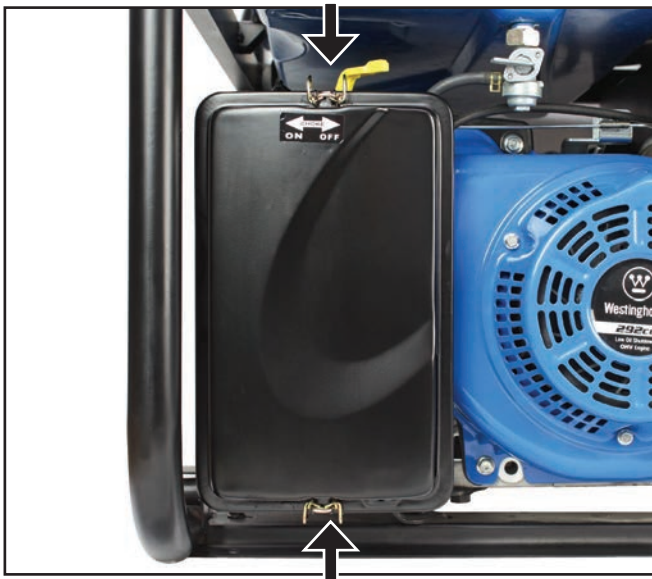

Figure 41 – Installation of Air Filter Cover
11. Replace the air filter cover correctly orientated with the choke function decal at the top and then fasten the top and bottom latches (see Figure 41).